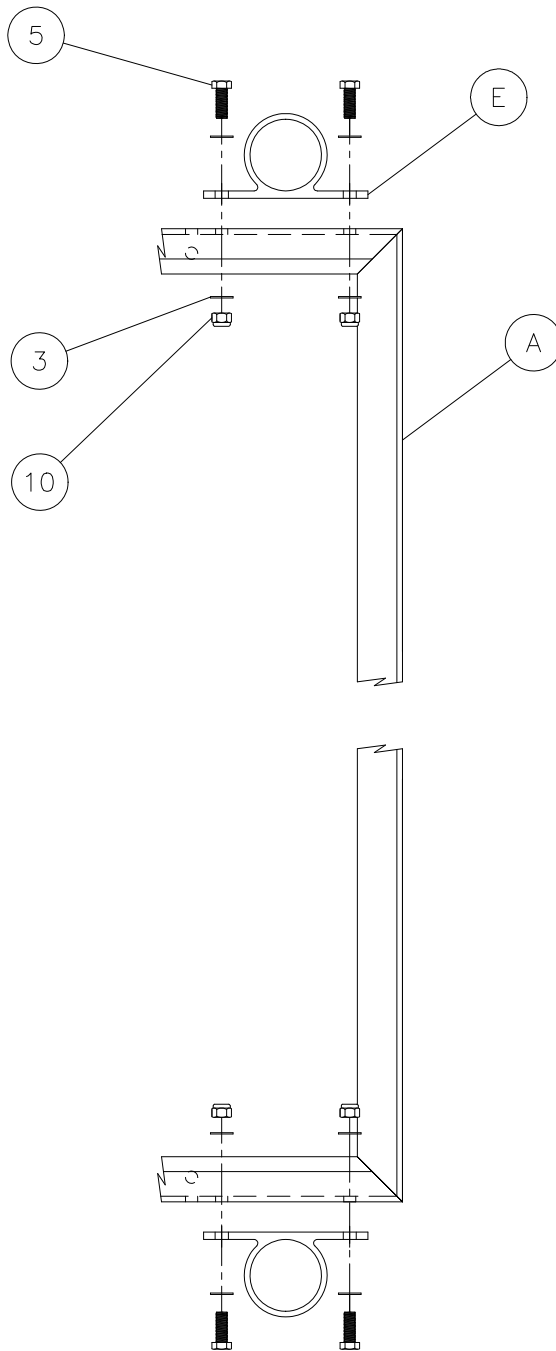

Figure 3-3
2. (Refer to Figure 3-3) Attach anchor pipe sleeve (E) to dock section (A) using the supplied fasteners. Align holes in sleeve with holes in dock frame and attach using two each 3/8" hex head cap screw (5), 3/8" nylock nut (10), and four each 3/8" flat washer (3). Tighten all fasteners securely.